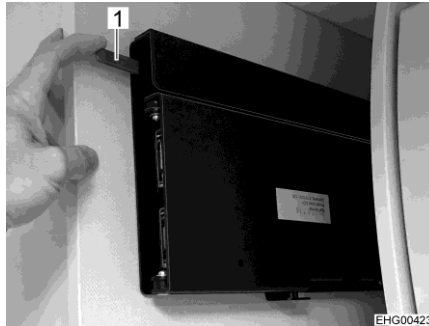
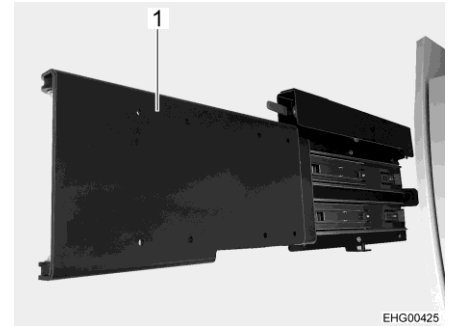

Fig. 82 Unlocking pull-out
Fig. 83 Pull-out (extended)
- Press red lever (Fig. 82,1) downward and pull pull-out (Fig. 83, 1) out. The flat screen faces the living area.